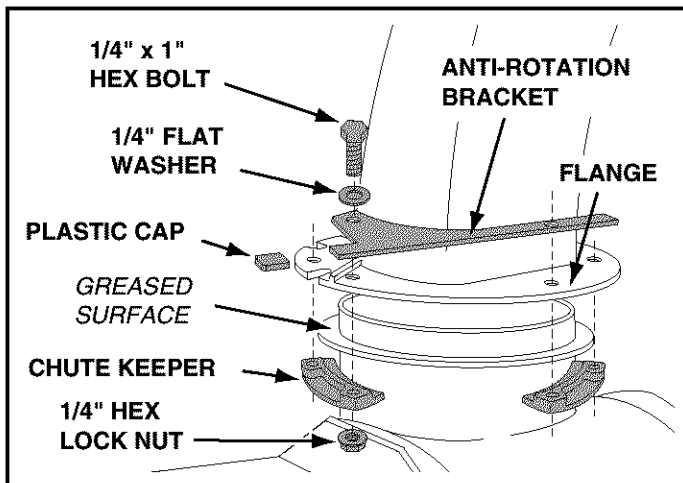

FIGURE 28 RIGHT SIDE VIEW
- Coat the top of the ring around the discharge opening with general purpose grease. See figure 28.
- Place the discharge chute (facing forward) onto the ring. Place the anti-rotation bracket on top of the chute flange, aligning it with the holes on the right hand side of the flange. Attach the three chute keepers (right side up as shown) to the bottom of the flange using six 1/4" x 1" hex bolts, 1/4" flat washers and 1/4" hex lock nuts. **Tighten carefully** so that the nuts are snug but do not dig into the plastic chute keepers. See figure 28.
- Place the plastic cap onto the short end of the anti-rotation bracket. See figure 28.